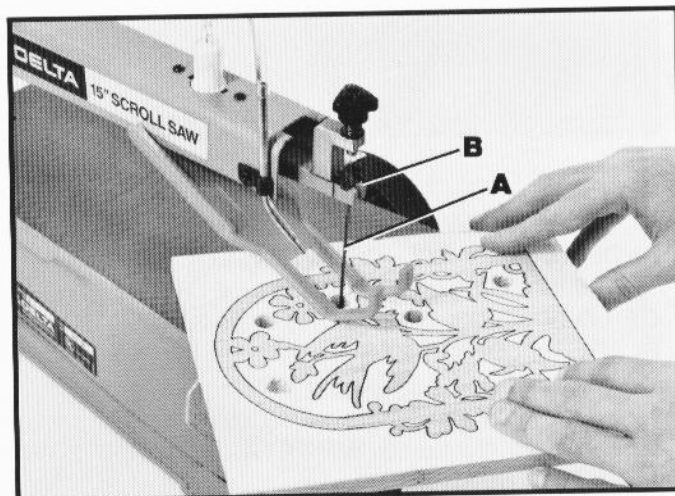

Fig. 31
6. Assemble the upper end of the pin-type blade (A) Fig. 31, into upper rocker arm (B), adjust blade tension and proceed to cut out the waste pieces.